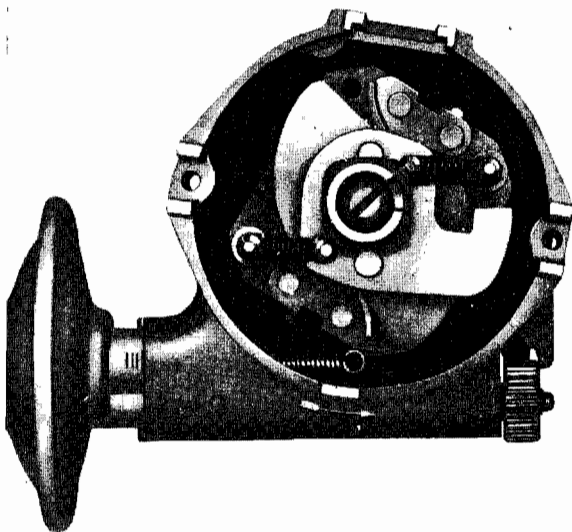

Fig. 8
7. Connect the springs to the pegs on the cam plate (see Fig. 8), and check the action of the weights in the fully advanced and retarded positions for freedom of movement and lightly lubricate all parts with engine oil.